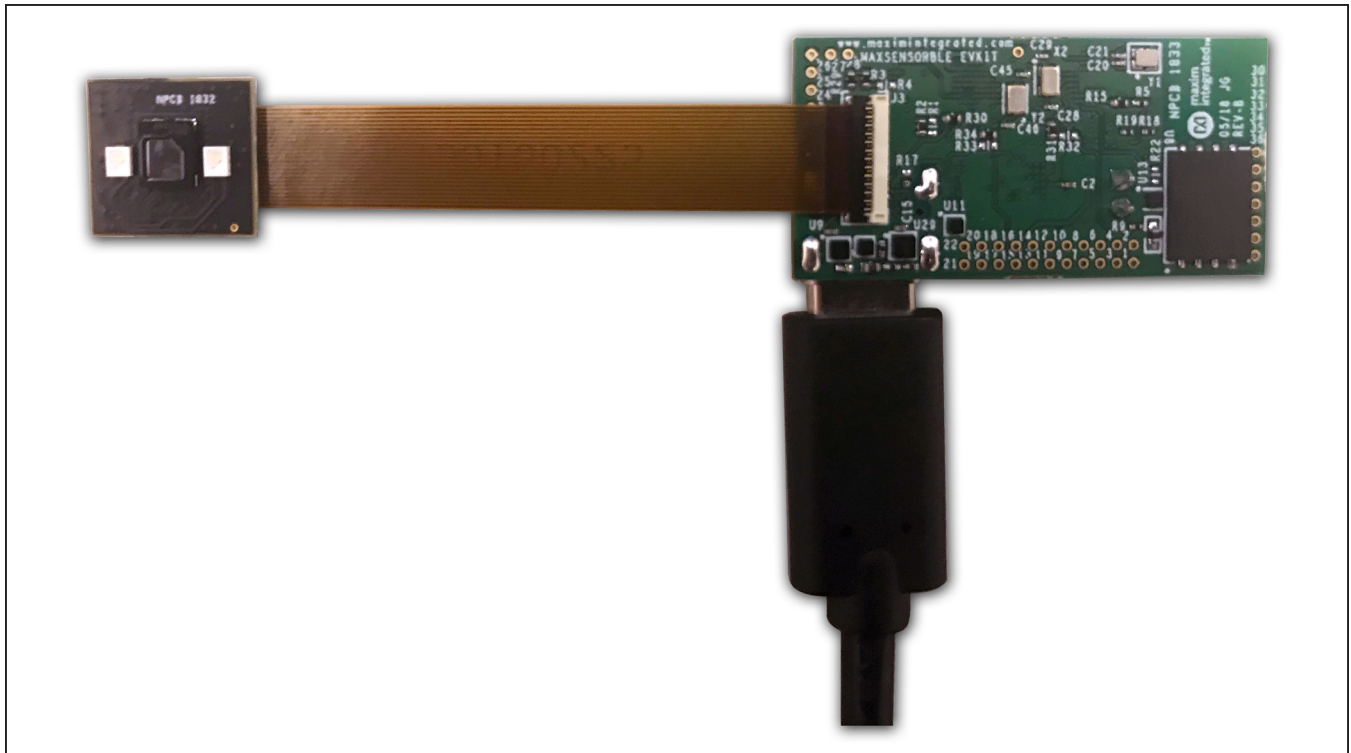
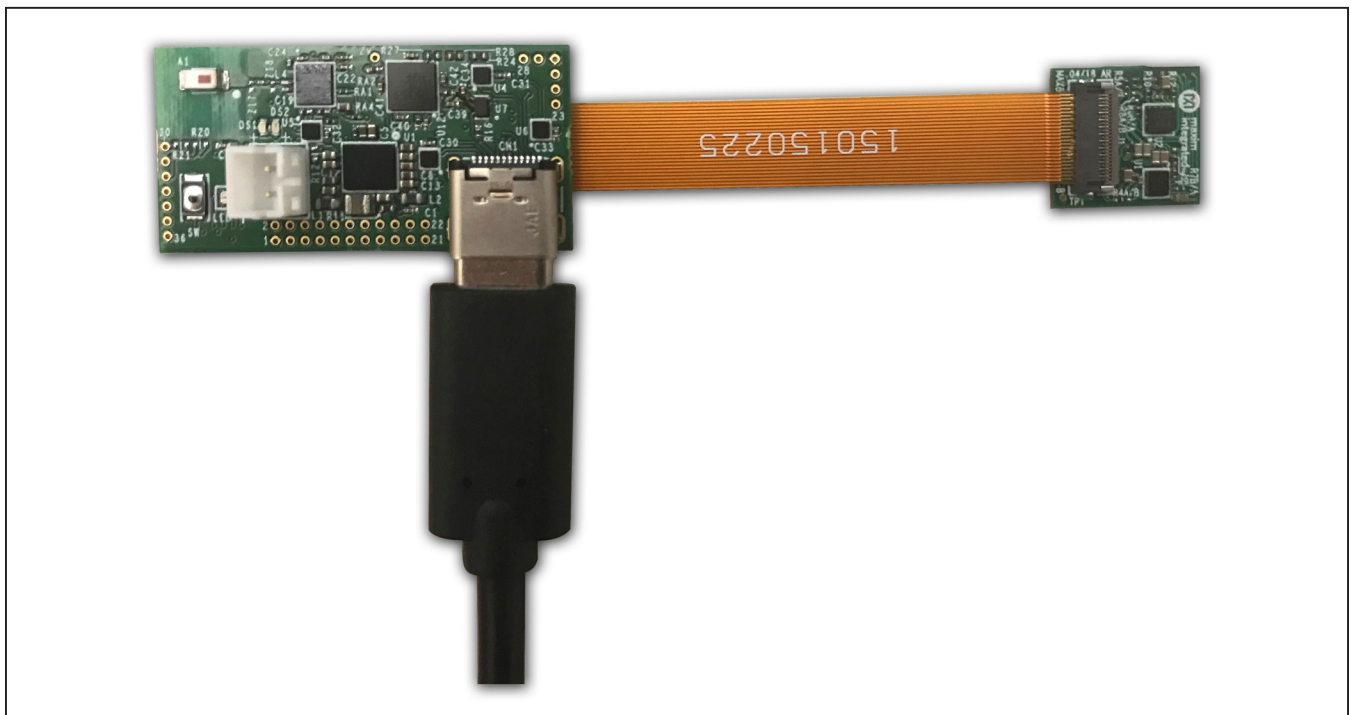
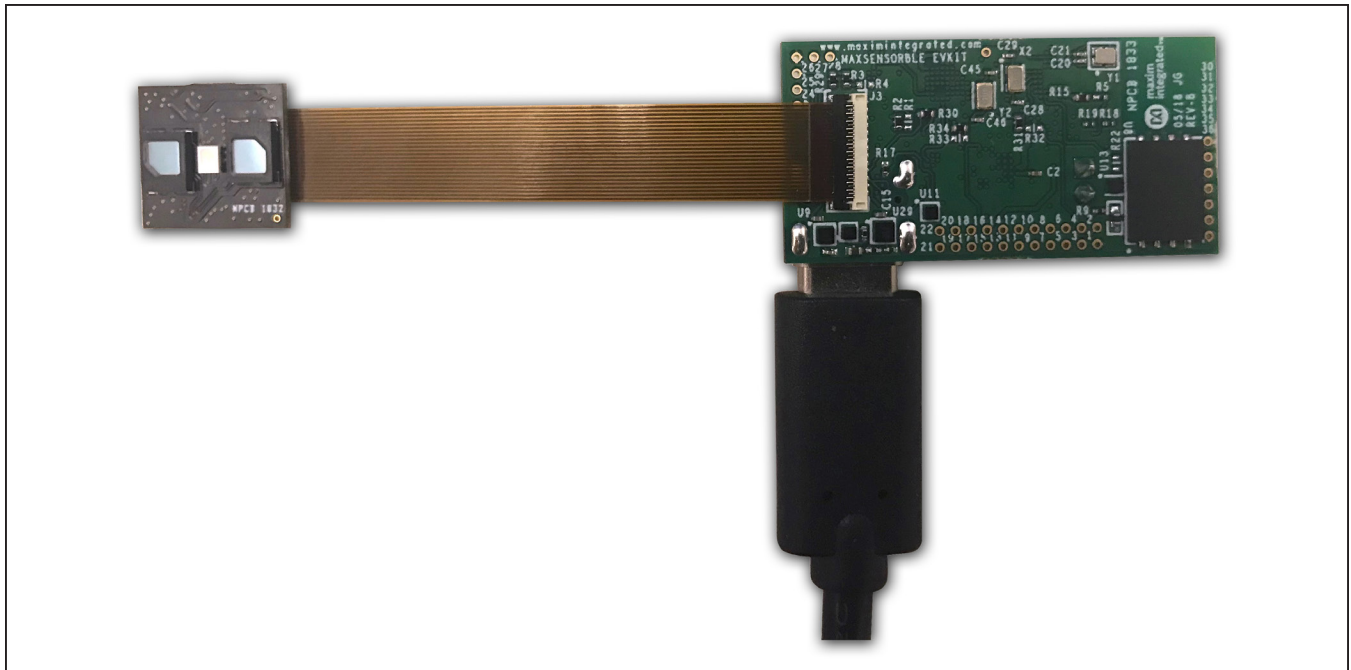

Figure 10. Hardware Setup (MAX86140 EVSYS Sensor PCB)
Figure 11. Hardware Setup (MAX86141 EVSYS Micro PCB)
Figure 12. Hardware Setup (MAX86141 EVSYS Sensor PCB)
- 5) If the MAX86140 EVSYS flex cable is not already connecting the Data Acquisition EVSYS Micro PCB to the MAX86140 or MAX86141 Sensor PCB, then please connect the two PCBs with the cable as shown in Figure 9 and Figure 10 or Figure 11 and Figure 12.
- 6) Connect USB-C cable or LiPo Battery to the Data Acquisition Board to power up the EVSYS. If LiPo battery is used, press the power switch (SW) to turn on/off the device. When powered on, the green LED will toggle.
- 7) After that, start the MAX86140 EVSYS GUI program. "Connect Device" will appear, choose your device and press "Connect" as shown in Figure 11.
- 8) The GUI will then be launched as shown in Figure 12.